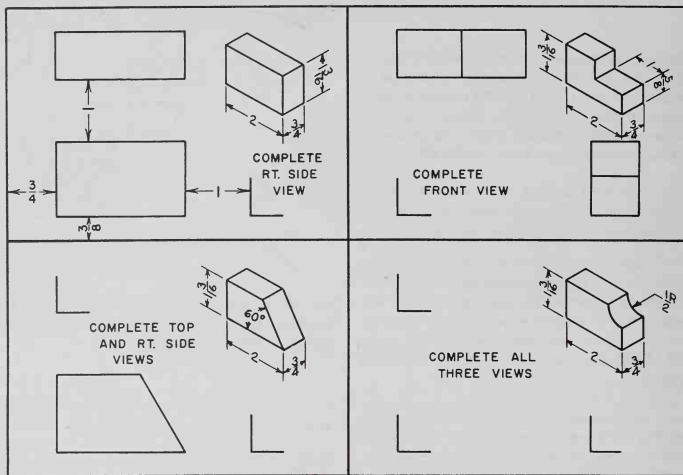

Fig. 3-8. Problems in multiview drawing.
2. First sketch, on another sheet of paper, the incomplete views; then you are to draw the views given and complete the views required in Fig. 3-8.